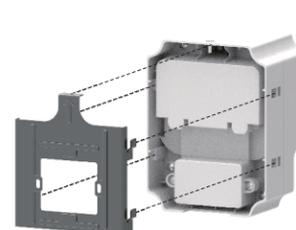

Figure 3
- b) Fix the beam detector bracket onto the wall using M4 screws, according to the installation diagram in Figure 3, install the beam Detector onto the mounting bracket and secure it with M4 countersunk screws. If it can be ensured that the Beam Detector can be firmly fixed on the installation surface, installation can also be done without using the Beam Detector base.